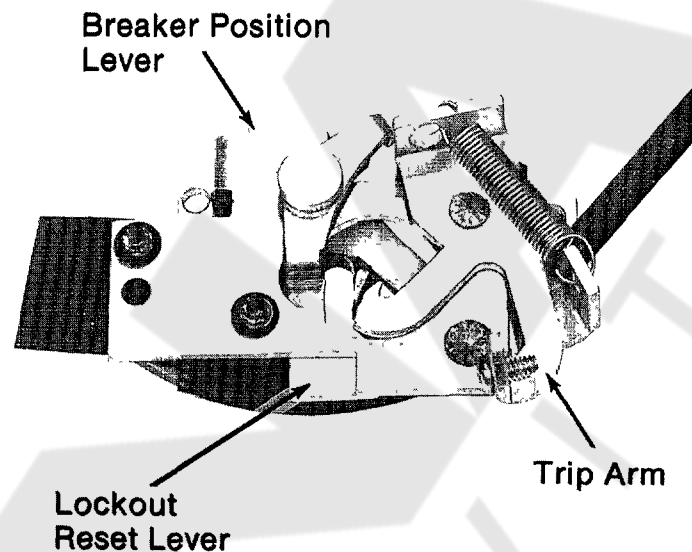

Fig. 1. Bell alarm device shown in lockout condition.
This device, Fig. 1, is for use in 2500-4000A frame POWER BREAK[®] MagneTrip[™] circuit breakers. It is designed to provide an electrical signal or interlock switching function to indicate remotely that the breaker has opened under overcurrent conditions. The switch is a single-pole, double-throw AB type, rated 6 amperes at 600 Vac, ¼ ampere at 240 Vdc, and ½ ampere at 125 Vdc.
4. Check the replacement unit to verify that it is in the lockout condition shown in Fig. 1. If it is not, proceed as follows: